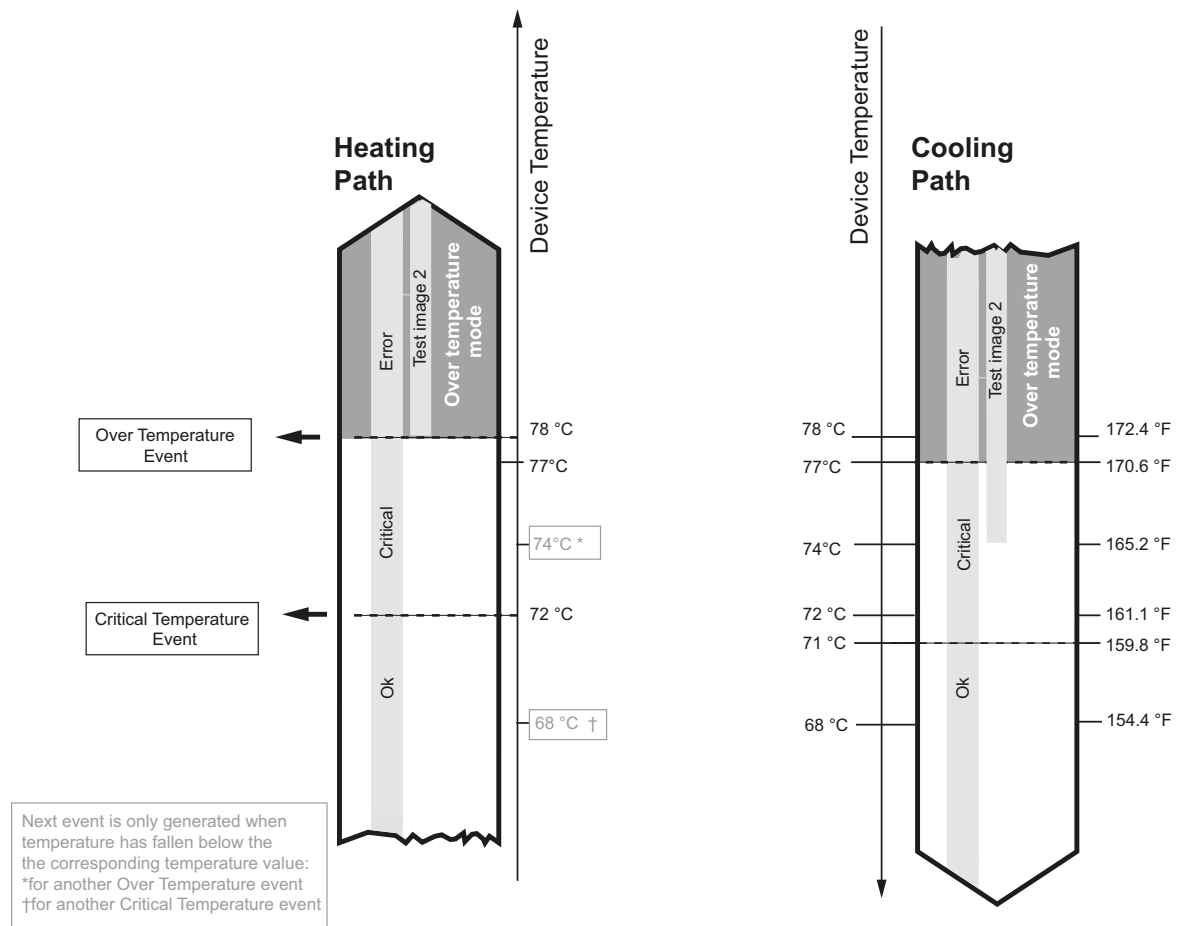

Fig. 38: Over Temperature Behavior for Heating and Cooling Paths
Note that the Fahrenheit (°F) values are indicated at the right side in Figure 38.
The cooling path includes device temperature thresholds at 74 °C and 68 °C that are used to reset event notification (see Figure 38):
- The parameter values for the TemperatureState parameter can be Ok, Critical, and Error. For information about their meanings, see Figure 38 on page 68 and the related descriptions.